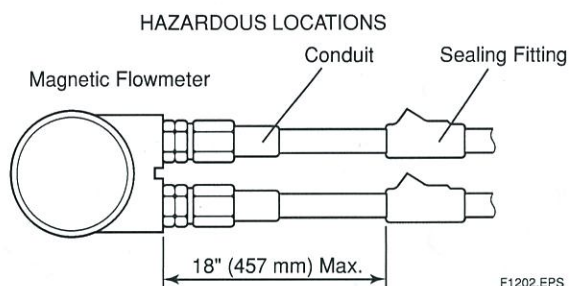

Figure 12.2.1 Conduit Wiring
**(2) Installation**
- In hazardous locations, wiring to be in conduit as shown in Figure 12.2.1.
**(3) Operation****! WARNING**
**(4) Maintenance and Repair****! WARNING**